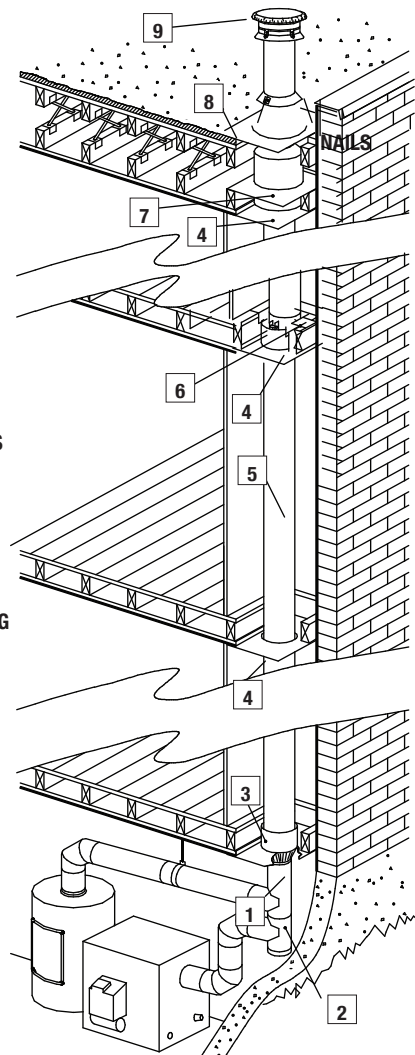

Figure 53
Step 4. From below, install a Firestop (BF) in each floor through which the chimney passes (see Figure 53).